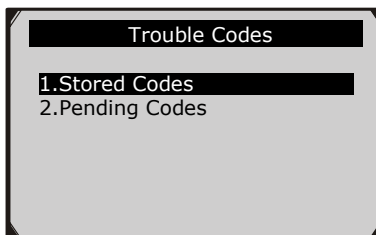

Figure 5.4
- 2) Use the **UP/DOWN** scroll button to select **Stored Codes** or **Pending Codes** from the **Read Codes** menu and press the **OK** button. (Figure 5.4)